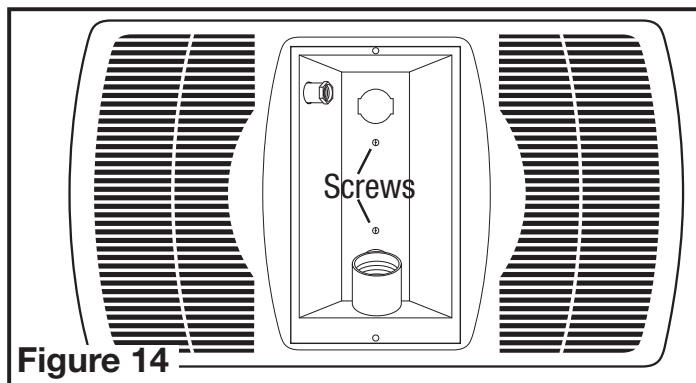

Figure 14
- Attach light reflector in place with the two screws removed during *Step 2* in **SECTION 1 Preparing the Unit** so grill fits snugly against ceiling (**Figure 14**).